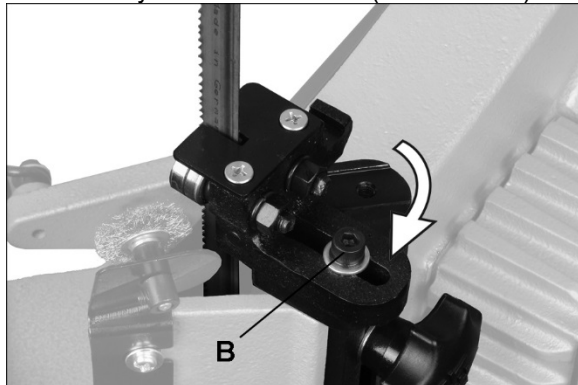

Figure 8-2: Lower Blade Guide Rotation (**712D only**)
- 3) The blade guide brackets can be rotated to facilitate a more comfortable operating position while in vertical mode. Remove screw (B, Figure 8-2) with 6mm hex key and position bracket in adjacent channel. Re-install screw.